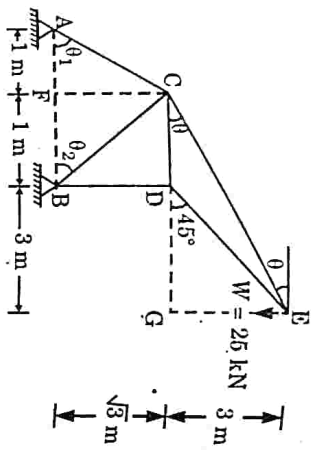

Fig. 4.
4. a. Calculate the deflection under the load for truss shown in Fig. 4. All the members are have equal areas of  $1250 \text{ mm}^2$  in cross section and  $E = 200 \text{ kN/mm}^2$ .